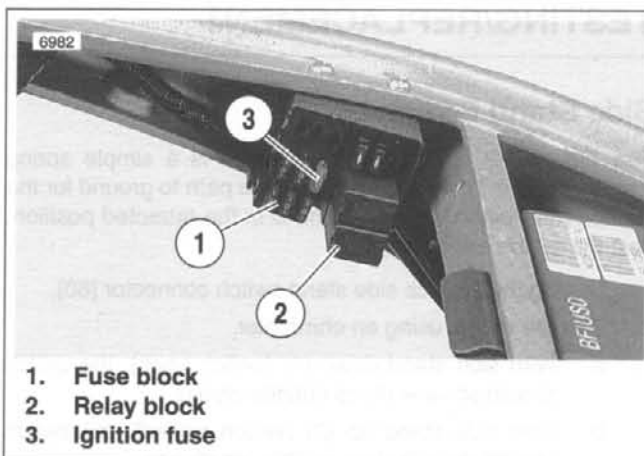

Figure 7-11. Fuse and Relay Blocks
See Figure 7-11. The ignition relay is under the seat. Test the relay as follows:
See Figure 7-11. The ignition fuse (3) is in the fuse block under the seat. Always replace the fuse with another 20 ampere fuse.